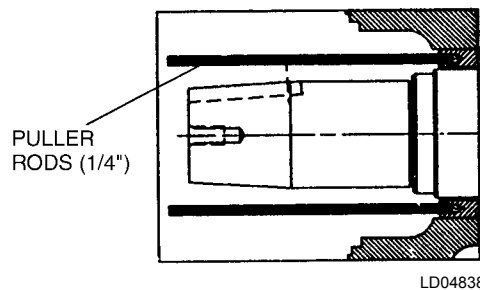

FIGURE 36 - LOW-SPEED REAR BEARING REMOVAL
4. Using the (2) 1/4" puller rods as shown in *Figure 36 on page 32* remove the bearing from the compressor.